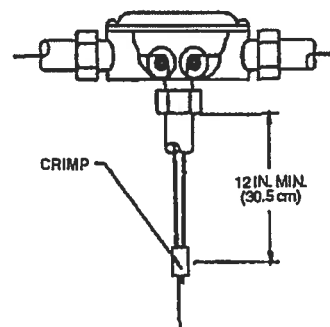

Figure 4-20. Tee Pulley Installation.
The Model TP-1 Tee Pulley is used to connect two (2) mechanical gas valves or two (2) remote mechanical pull stations to a single control head. The cable proceeding from the control head must always enter the branch of the tee pulley. See Figure 4-20.